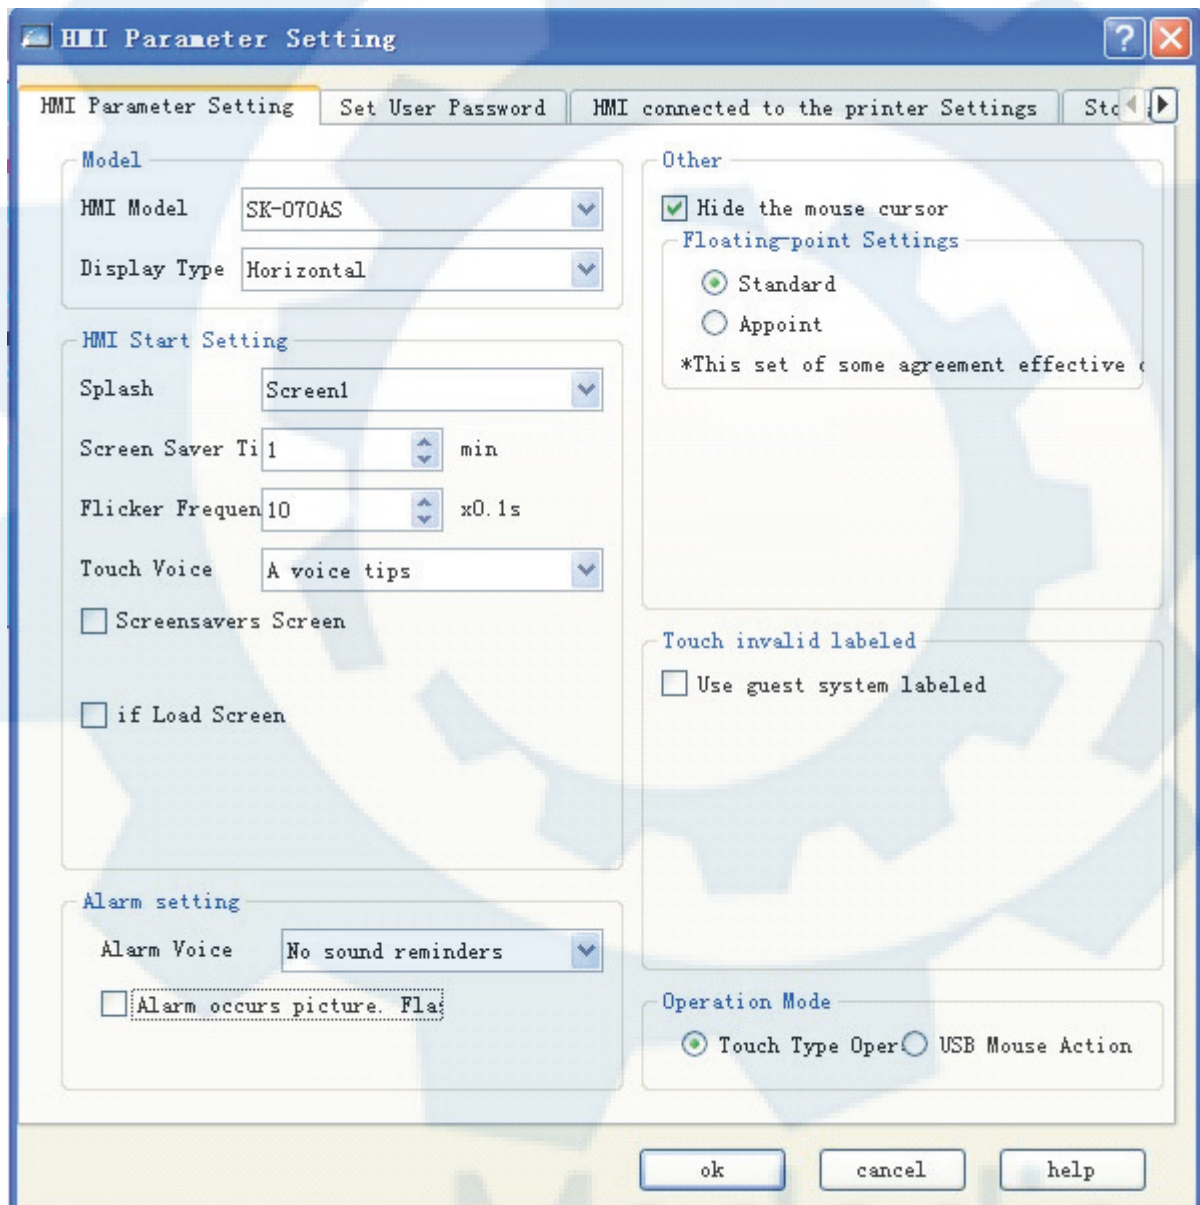

Figure 7-3 General setting box for touch screen parameters
1. The parameters can be set and changed from the drop down list or by double clicking the touch screen setting in the project manager. Then it will pop up the dialog box as shown in Figure 7-3: